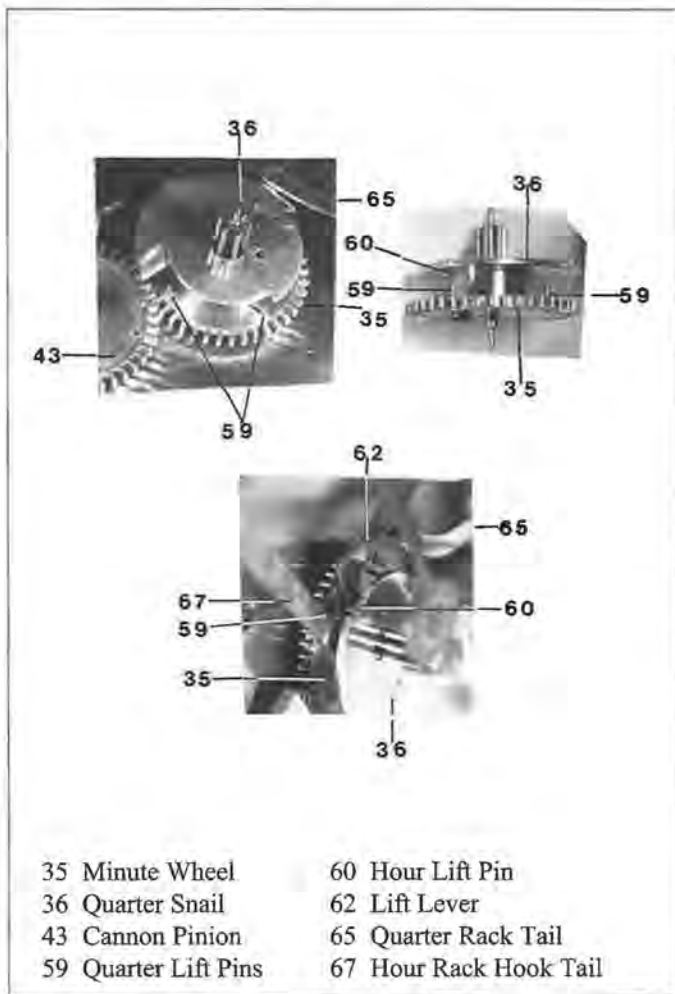

Figure 33.4. Minute Wheel/Quarter Snail Assembly
18.4. Install hour strike rack hook (75) after a drop of oil on the post.
CAUTION: MAKE CERTAIN THAT THE RACK HOOK TAIL (67) RESTS BETWEEN THE QUARTER STRIKE SNAIL (36) AND THE MINUTE WHEEL (35) (FIGURE 33.4).